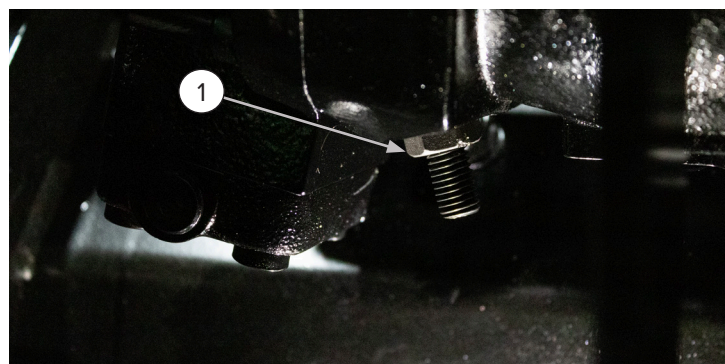

Figure 5
3. Loosen the jam nut, and turn the allen bolt to adjust the minimum displacement. Tighten the jam nut when complete [Figure 5, Item 1].